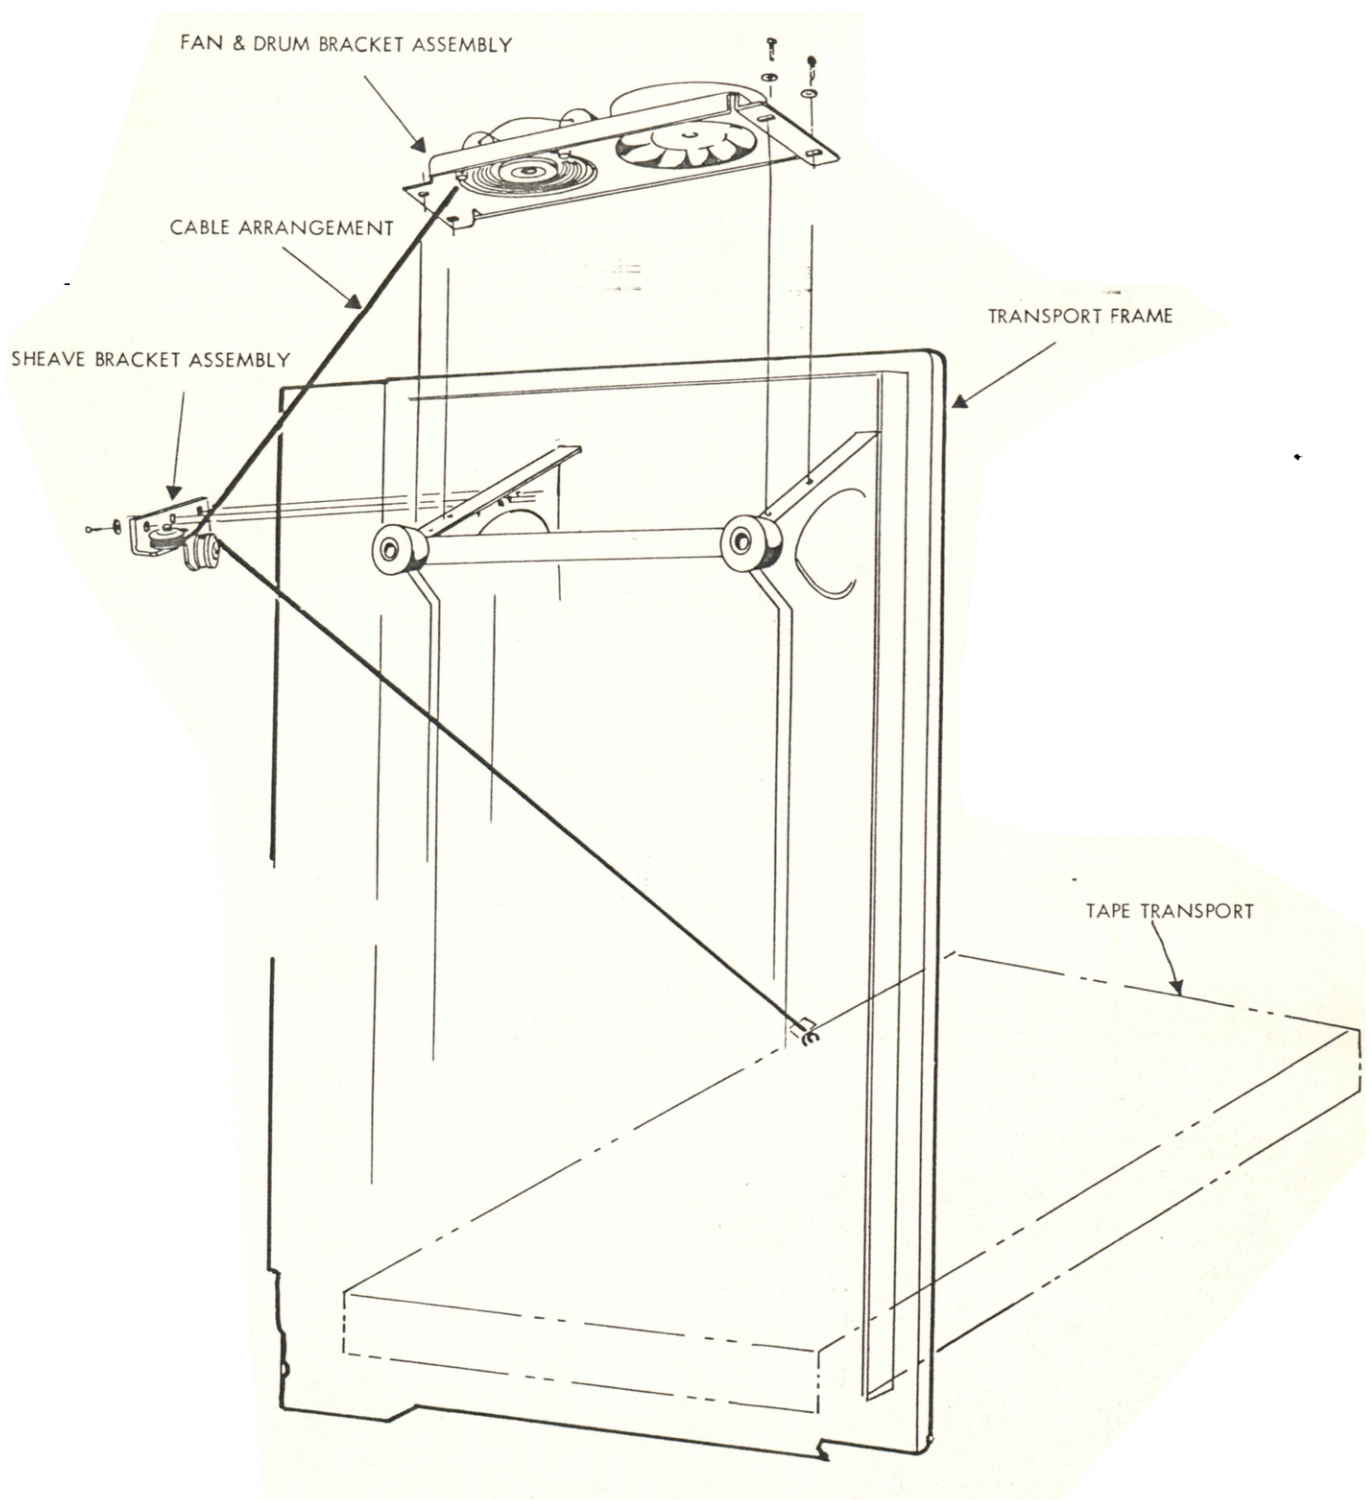

Figure 2. INSTALLATION OF RACK MOUNT ADAPTOR
- Step 1: Refer to figure 2 and mount the sheave assembly on the rear side of the transport frame, adjacent to connector J104 on the reproduce amplifier card file. Secure the assembly using the hardware supplied with the adaptor kit.
- Step 2: Refer to figure 2 and mount the fan and bracket assembly on the top end of the transport frame, directly behind the test panel. Secure the assembly in four places using the hardware supplied with the adaptor kit.
- Step 3: Wind the support cable on the drum approximately four turns and insert the cable through the sheave assembly as shown in figure 2 and fasten the end of the cable to the transport chassis.